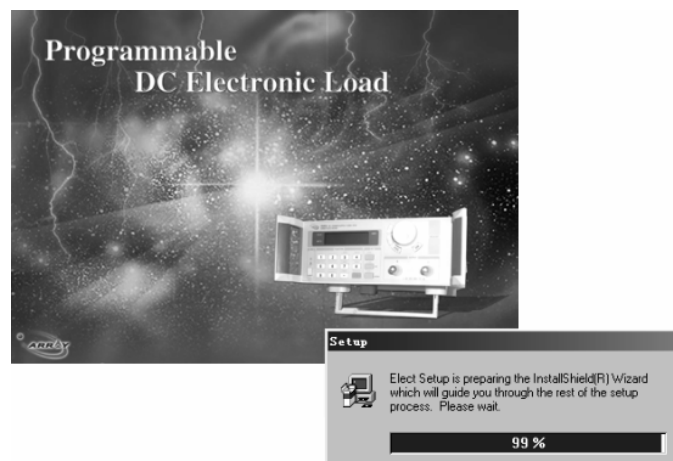

Fig.1-2 The Initialization of the Installation
1.2.1 Insert the software CD(The CD is included with 3311,3312 or 3313/3314 adapters) into the CD-ROM drive, double-click My Computer => CD => Eload => Setup.exe to start the installation, the Fig. 1-2 will be displayed.